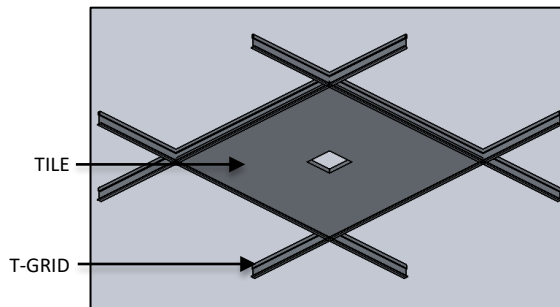

FIG. 16-TILE INSTALLATION
12. Cut a 3.375" high and 3.625" Wide Hole into the CEILING TILE and insert the TILE into the desired location as shown below in FIG. 16.